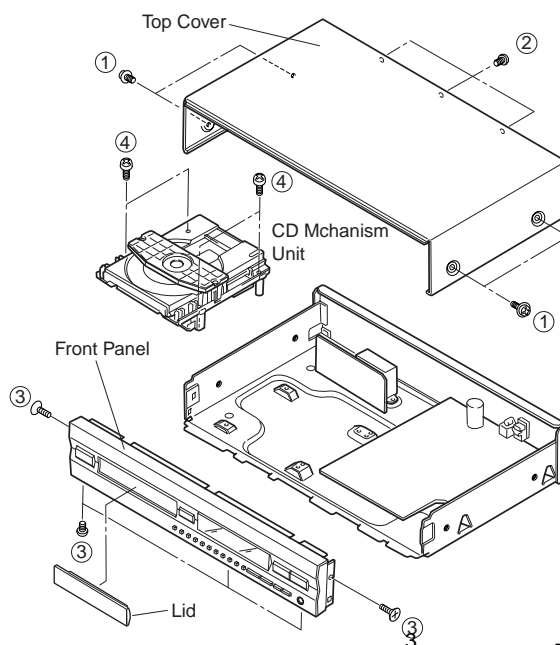

Fig. 1
- Remove 4 screws (①) and 3 screws (②) in Fig. 1.
- Remove 5 (③) screws in Fig. 1.
- Remove 4 screws (④) in Fig. 1.